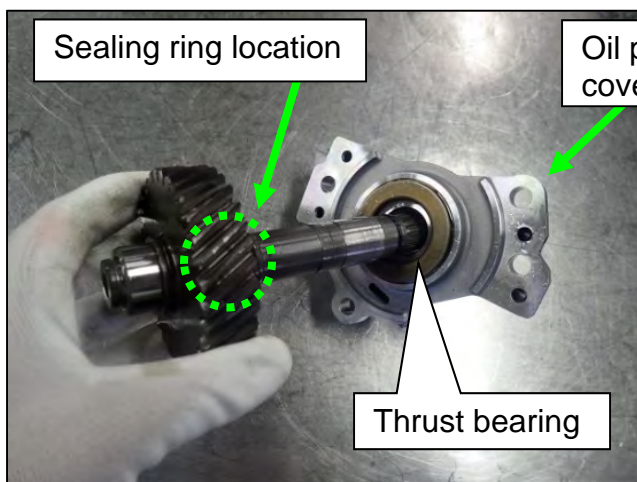

Figure 130
- h. Insert the input shaft into the oil pump cover (Figure 130).
- The sealing ring is hidden behind the input gear in Figure 130.